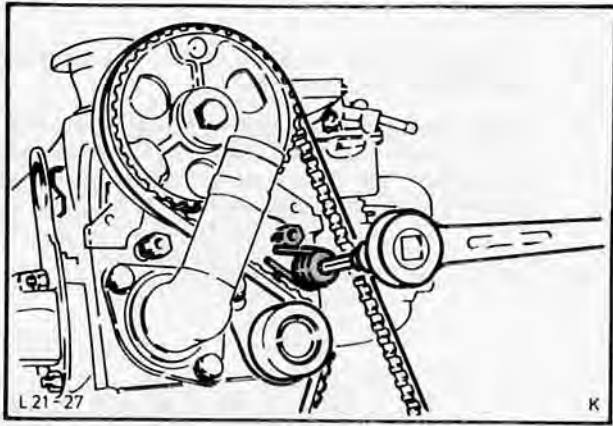

Fig. 230. Slacken belt tensioner using Special Tool 21-012
3. Slacken belt tensioner using Special Tool 21-012 (1 hexagon bolt, 1 special bolt), press against spring pressure and retighten, Fig. 230. Remove toothed belt.